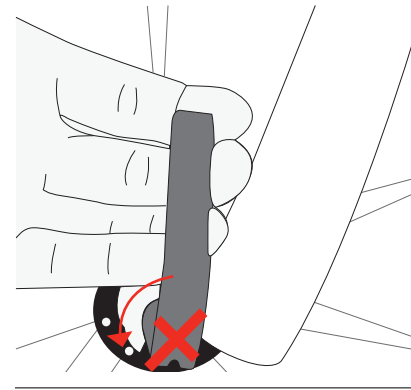

Figure 39. Make sure the lever does not turn.
- Test B. Make sure the quick-release lever can not be turned in a circle (Figure 39).